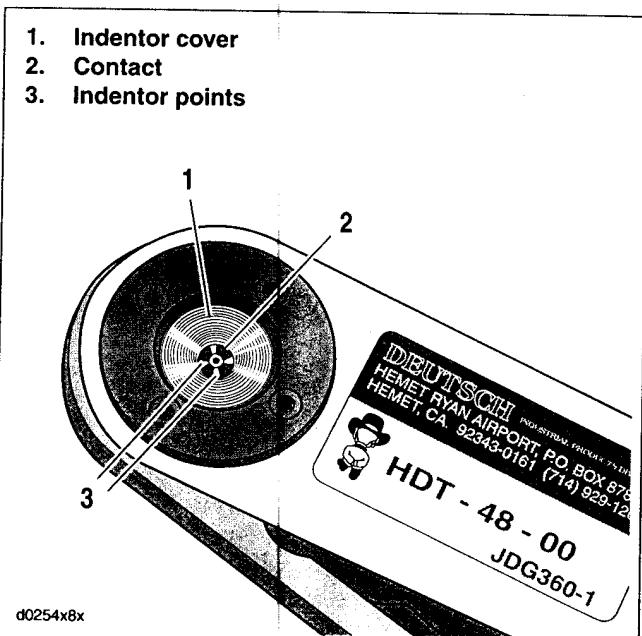

Figure B-16. Indentor Points
7. See Figure B-16. Slowly squeeze handles of crimp tool until contact (2) is centered between indentor points (3).